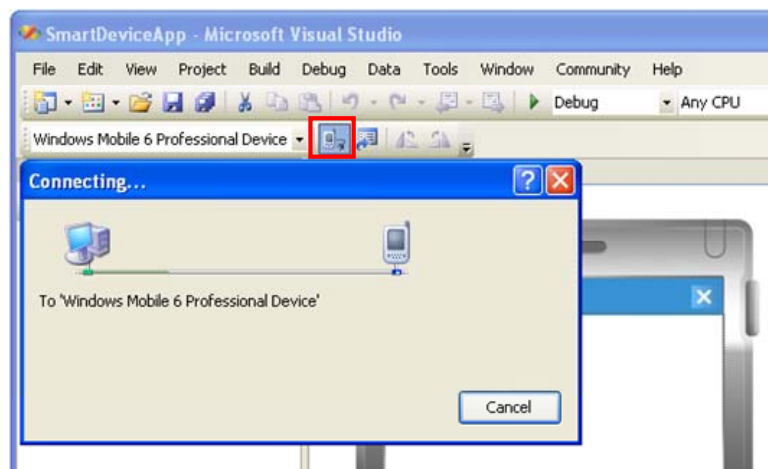

Figure 6.2
4. Click the button shown in the red box below (see Figure 6.2) to make sure that Visual Studio 2005 has recognized the connection established with the DT-X30 via ActiveSync. If it does not, start up ActiveSync again to establish connection.